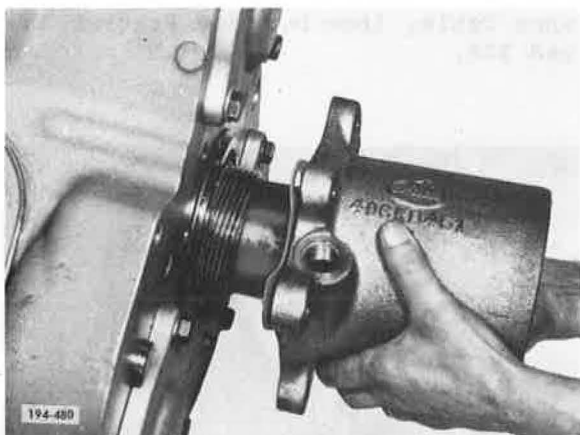

Figure 335. Installing Cover and Gasket
20. Apply sealer compound and install rear mainshaft rear bearing cover gasket and cover. See Figure 335.